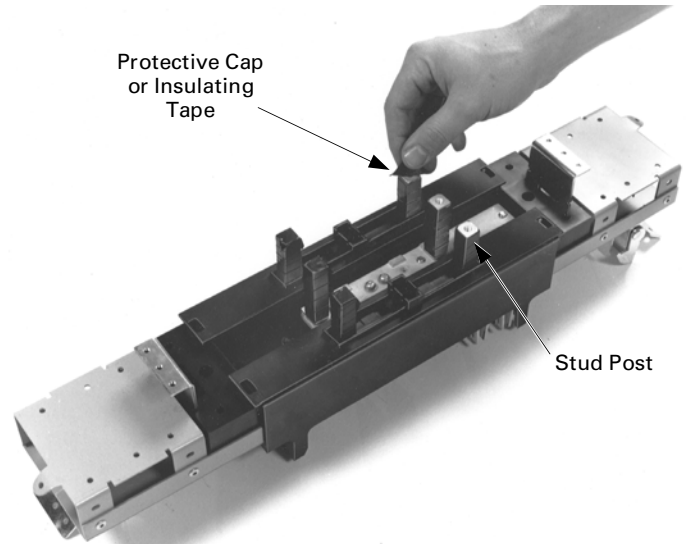
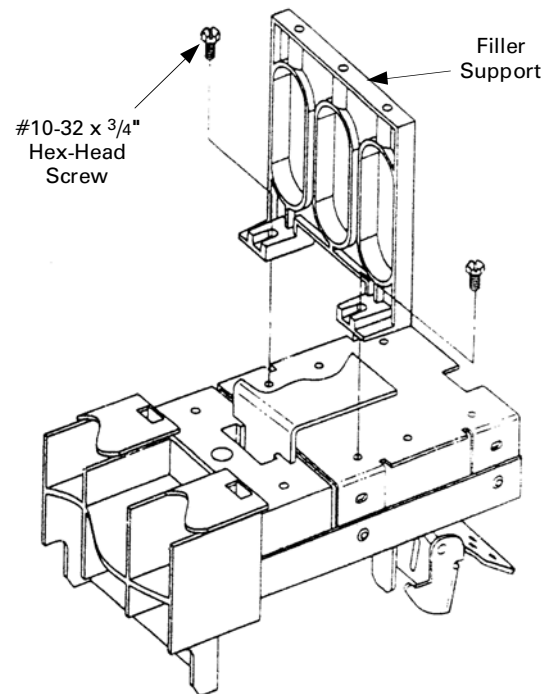

Figure 2. Removing the cap or tape from the stud posts of the breaker module.
Figure 3. Attaching the filler breaker module.
- 2. Prepare the module.** Remove the protective caps or insulating tape only from the tops of the stud posts to which the circuit breaker is to be attached, as shown in Figure 2. Fasten the filler supports, as shown in Figure 3, with #10-32 x 3/4" hex-head screws tightened to 15–20 in-lb.